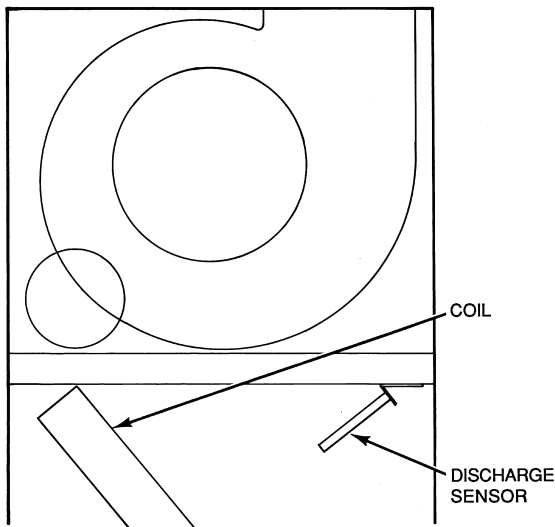

Fig. 5 — Installing SAT Sensor
2. Mount the supply-air temperature sensor inside the air handler on the sensor mounting angle. Use the holes in the sensor base as guides to fasten the sensor to the mounting angle with field-supplied self-tapping screws, or drill holes into the mounting angle and fasten sensor in place with field-supplied sheet metal screws ($3/4$ -in. maximum length). Locate the sensor in the middle of the mounting angle. See Fig. 5.